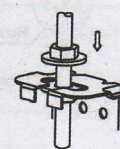

Fig. 5-7
- Locate the air conditioner firmly by wrenching the nuts after having adjusted the body's position well. (Refer to Fig.5-7)